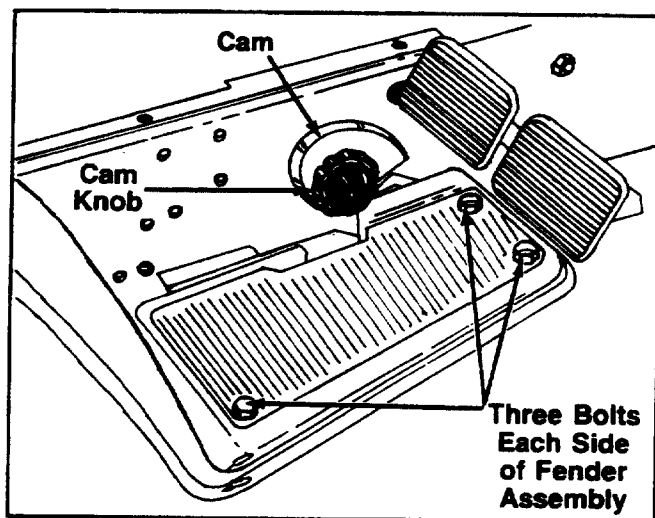

FIGURE 6.
11. Remove the cam and cam knob from right hand side of tractor. See figure 6.
12. Remove three bolts on each side of fender assembly at the running boards. See figure 6.